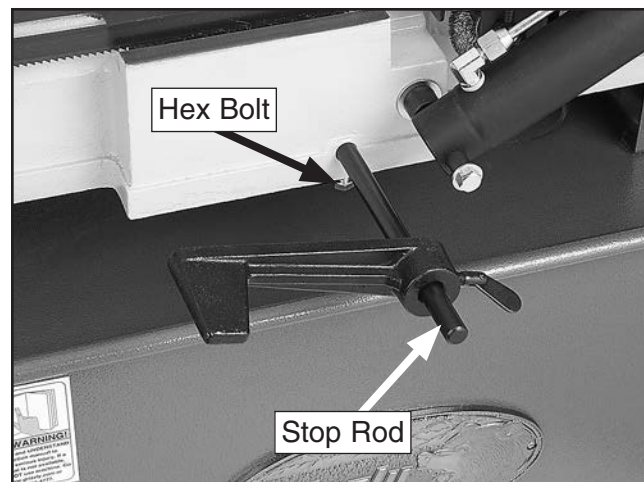

Figure 10. Work stop installed.
1. Insert work stop rod through hole in base and lock in place with hex bolt (see **Figure 10**).